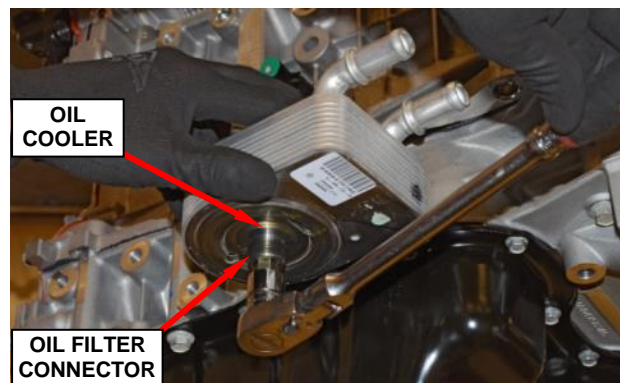

Figure 41 – Oil Filter Connector
- b. Remove the engine oil filter connector (Figure 41).
- c. Remove the engine oil cooler (Figures 41).